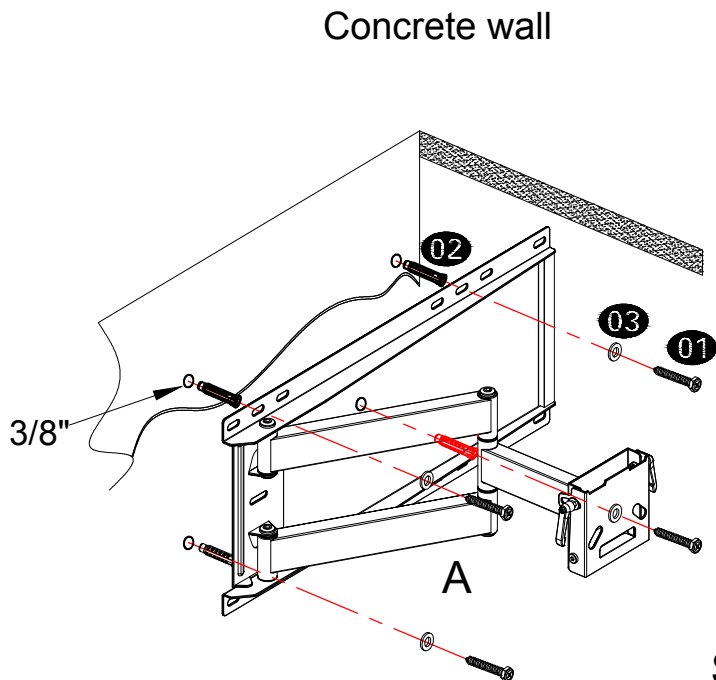

Figure 1 (keep the wall plate level)
**Step 1:** Please remove the plaster board on the surface of concrete wall when assembling mount on the concrete wall. Hold wall plate (A) against wall at desired position on concrete wall, then using a pencil mark 4 hole locations. Then drill holes according pencil marks using 3/8" size drill bit to a depth of 2.5". Then you will need to use wall anchors (02). Insert wall anchors (02) into holes, you may need to use hammer to lightly tap wall anchors into wall. Then fix wall plate (A) to the wall with screws (01) and washers (03). (Figure 1)